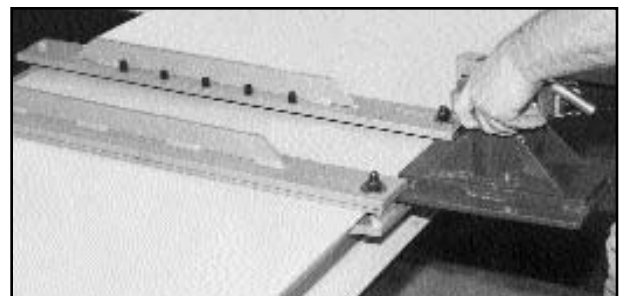

Figure 4
- 3) Slide anchoring stand into clamp mount and position at desired location. (See Figure 4.)